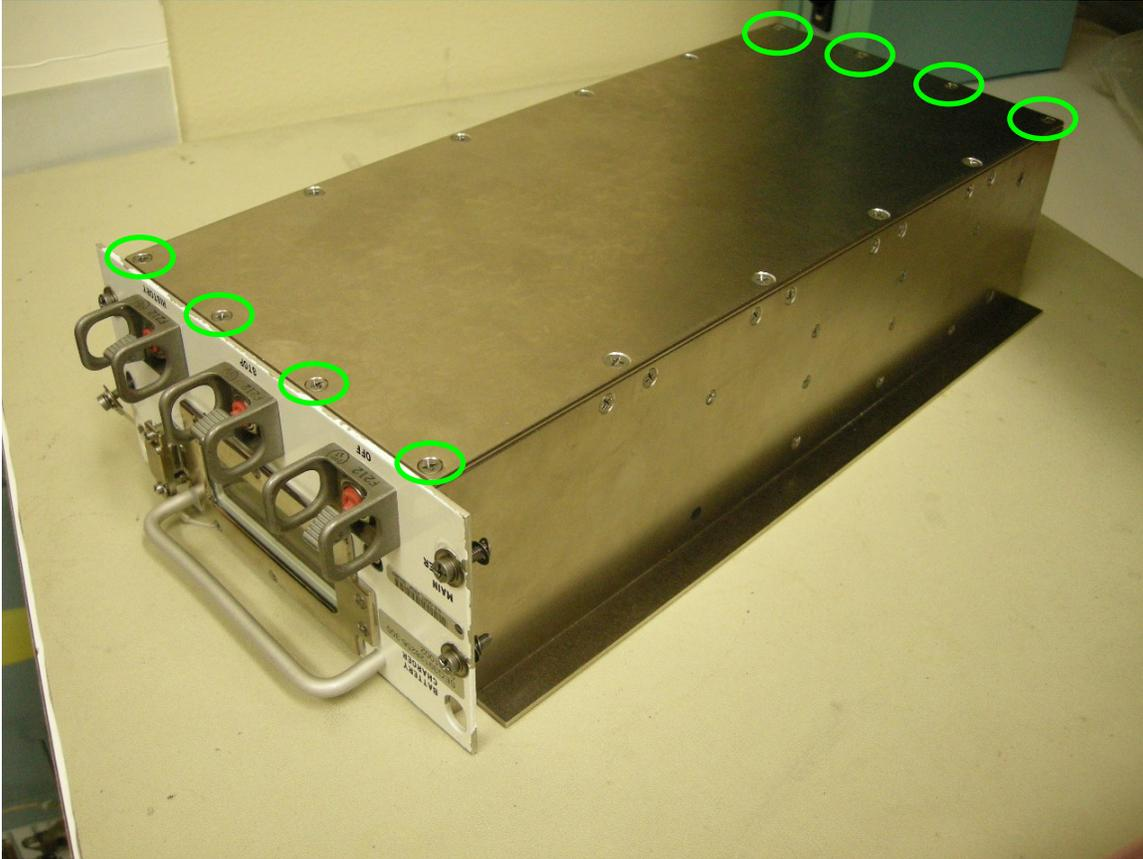

Figure 3.- Bottom View of BCM, size #6 Fasteners
- 2.2 Remove non-captive size #6 fasteners (eight) from bottom cover as indicated in Figure 3 (Driver Handle, 1/4" Drive; 1/4" to 3/8" Adapter; #6 Long Torq Driver, 3/8" Drive).